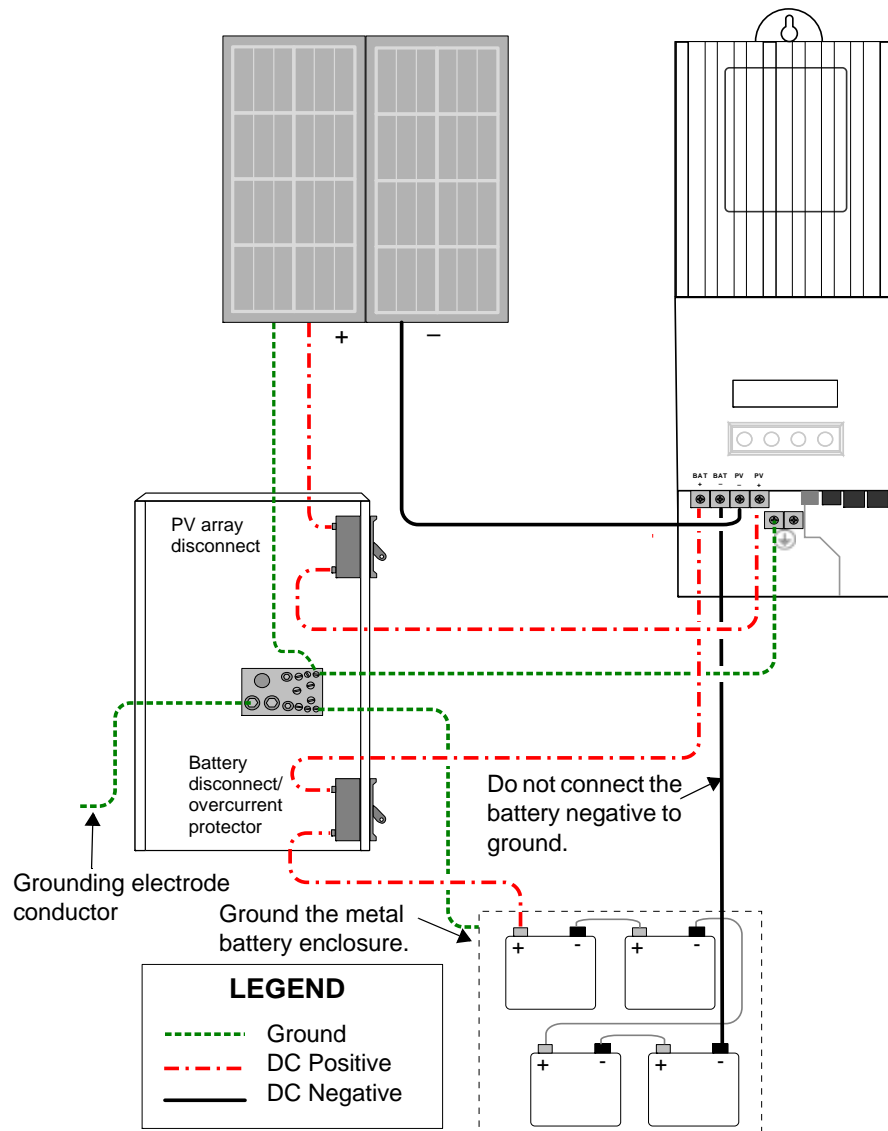

Figure 2-9 Charge Controller Wiring
- If PV-GFP is enabled, do not ground either PV negative or battery negative circuits. Grounding these circuits will defeat the internal PV-GFP protective function. See Figure 2-9 on page 2–14 for recommended battery circuit wiring.
The following procedure is illustrated in Figure 2-9.
Do not connect the battery negative to ground. Bonding the battery negative to ground disables the unit's internal PV ground-fault protection. For more information, see "Grounding" on page 2-7. See Figure 2-9 on page 2-14 for correct routing of the battery negative.
2. Ground the XW SCC. Connect a grounding conductor between an XW SCC ground lug and the system ground (as shown in Figure 2-9).